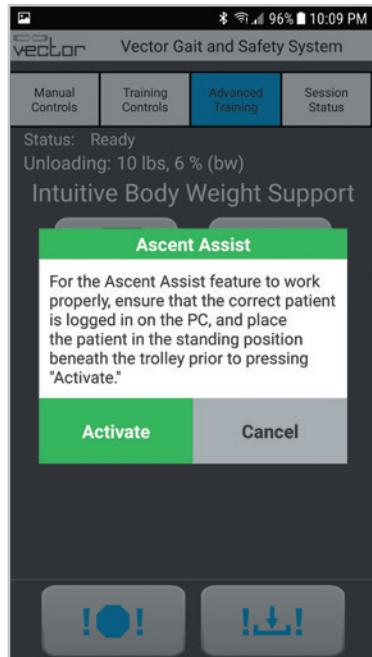

Figure 9-25
3. A popup message will be displayed with instructions for verifying patient weight and ensuring that the patient is standing. If the displayed weight is incorrect, it must be updated prior to using this feature. See Figure 9-25.